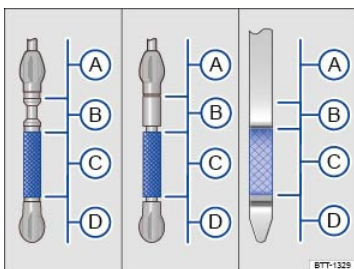

Fig. 211 Engine oil dipstick with oil level marks.
Key to ⇒ Fig. 211 :
- Do not start the engine if the engine oil level is in range ⇒ Fig. 211 **A**. Contact an authorized Volkswagen dealer or an authorized Volkswagen Service Facility. Otherwise the catalytic converter and engine can be damaged!
The engine oil level should never be in range ⇒ Fig. 211(A). Otherwise oil can be drawn in by the crankcase ventilation system and enter the atmosphere via the exhaust system.